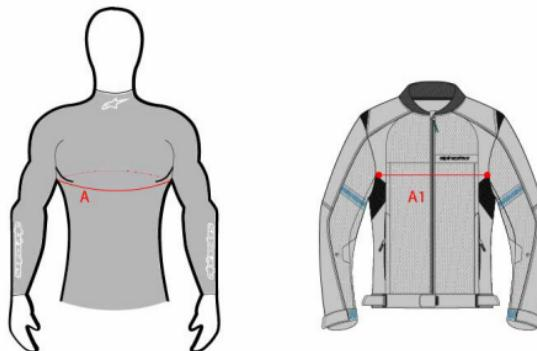

Figure 22: References for the chest circumference (A) and the garment chest width (A1) locations
WARNING! Tech-Air® Off-Road shall be worn with any outer garment that meets the following criteria: measure the circumference of the chest (A) and the garment width on the chest region (A1). The garment is compatible with Tech-Air® Off-Road System if A1 is greater than A divided by 2 plus 16 cm ($A1 > 0.5 \times A + 16 \text{ cm}$ or $A1 > 0.5 \times A + 6,30 \text{ in}$) (see Figure 22 below).